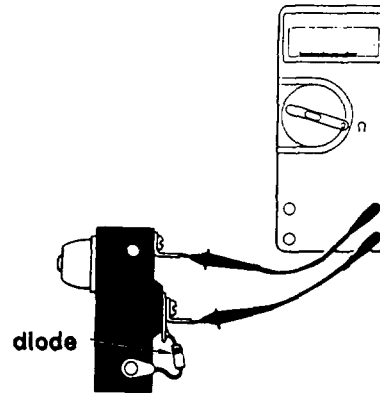

FIG. 3
**Correction:** Check that connections are made and are tight. Check for corrosion on terminals and clean as required. Check function of fuel pump switch. With the switch open, the VOM should register an "O.L." condition (Fig. 3). With the switch closed (plunger released), the VOM should register continuity. Replace as needed.